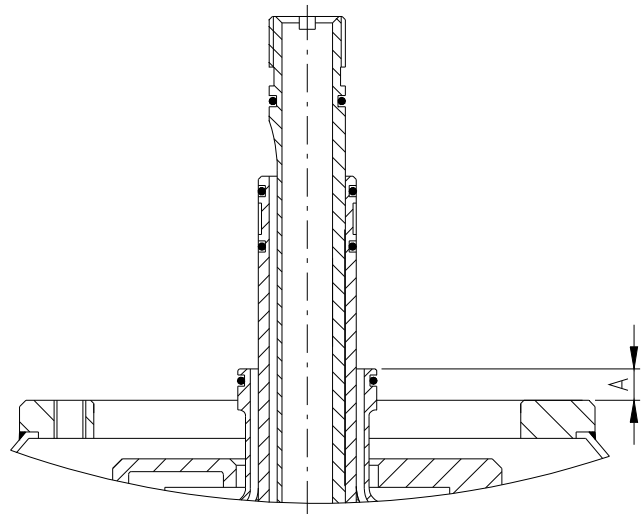

Figure 6.13
To find "A" push down the centripetal pump (3) to the bottom of the corresponding bowl chamber. The distance (measured in mm) between the cover upper edge and the pump give the value of "A" (fig. 6.13). Extract all existing spacers before doing this measure.